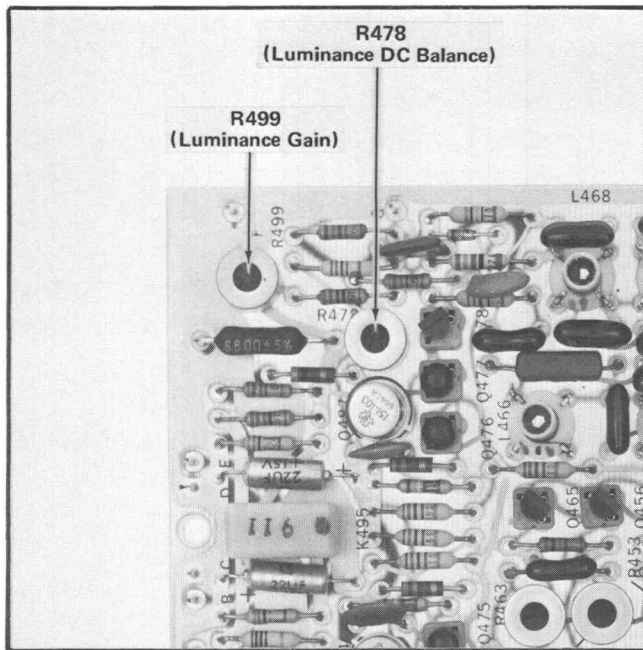

Fig. 5-8. Bar Drive and Video Output board adjustment locations.
l. ADJUST—Luminance Gain control, R499 (see Fig. 5-8) until the 100 IRE level line and the blanking level are aligned.
- e. ADJUST—Luminance DC Bal control, R478, (see Fig. 5-8) until the blanking level of the display exactly coincides with the reference established in part b of this step.